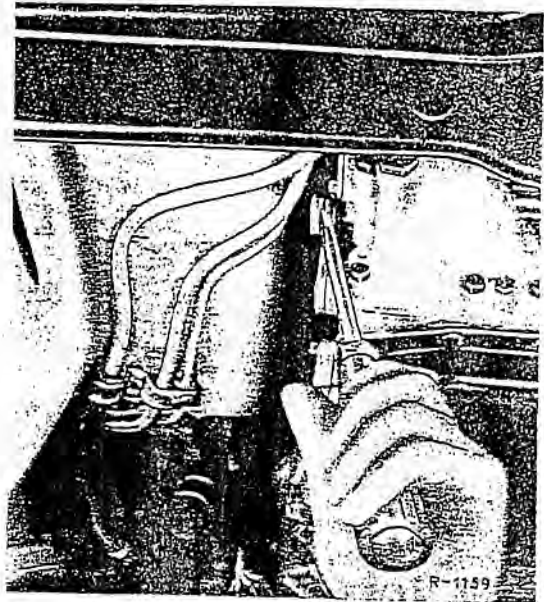

Fig. 27-3/9
Remove wire lock on ball socket and remove selector rod from intermediate lever (5). Then press off selector rod from range selector lever by means of a screw driver (Fig. 27-3/9).
10. Remove bracket for front exhaust pipe (1). Remove rubber bearings (2) from rear engine support (3). Remove rear engine support (3) (Fig. 27-3/10).